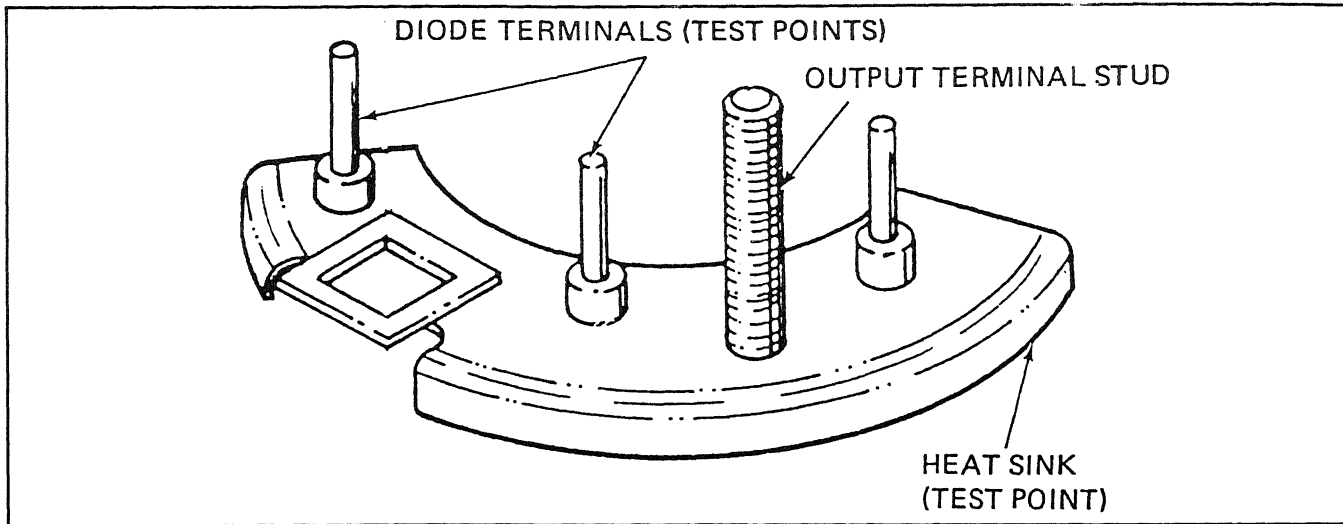

Figure 5-28.21. Rectifier Diode Test Points
- (2) Rectifier diodes. Test diodes at points shown in Figure 5-28.21.